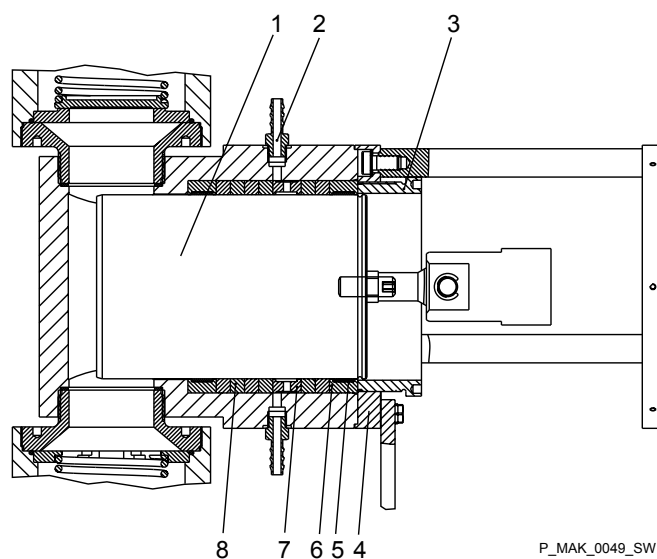

Fig. 18: Cross-section through the liquid end
1. ➤ Loosen the tensioning screw (3) using the face spanner and remove - see Fig. 18.
2. ➤ Loosen the dosing head flange (4) screws and remove the dosing head flange.
3. ➞ Remove the piston (1)
1. ➤ Align the holes of the swivel head and fork head - see Fig. 18.